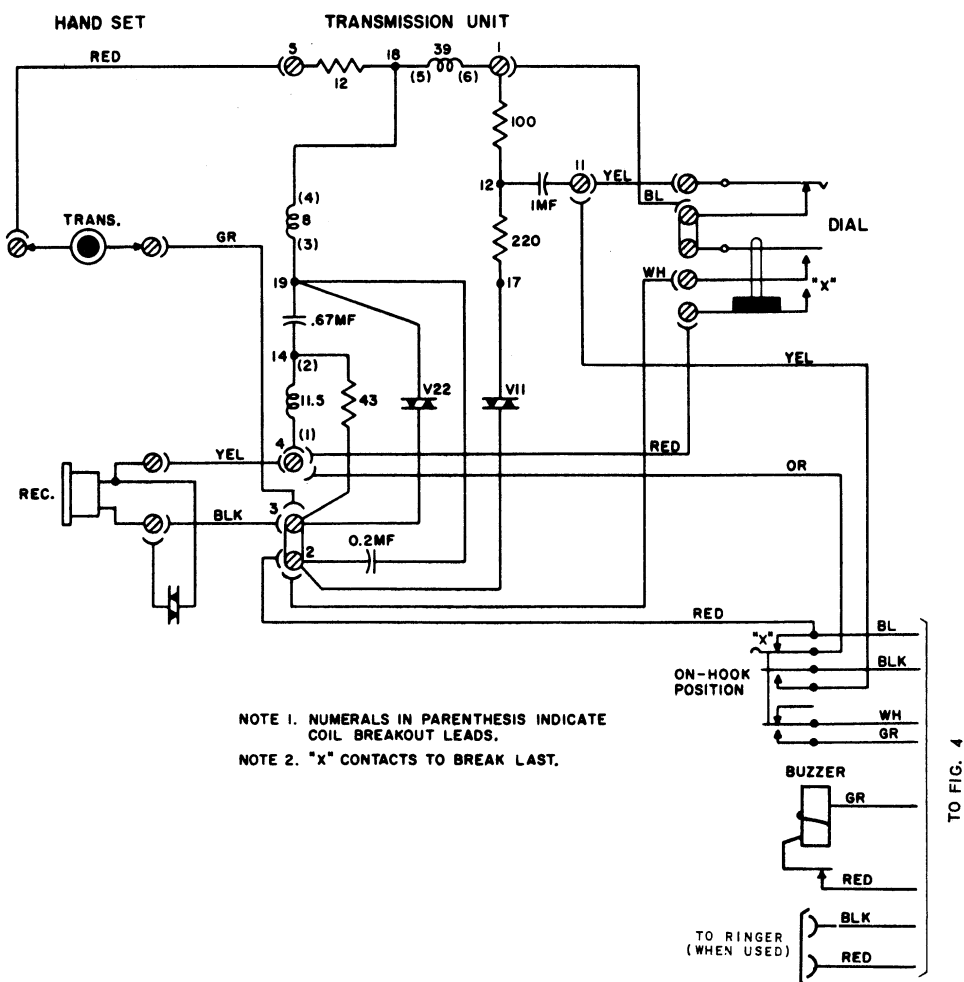

Fig. 6. Type 86 Telephone Circuit Diagram (Self-Compensating)
- b. If the first two letters are NB, the circuit is equipped with a self-compensating network (See Fig. 6 for circuit drawing).